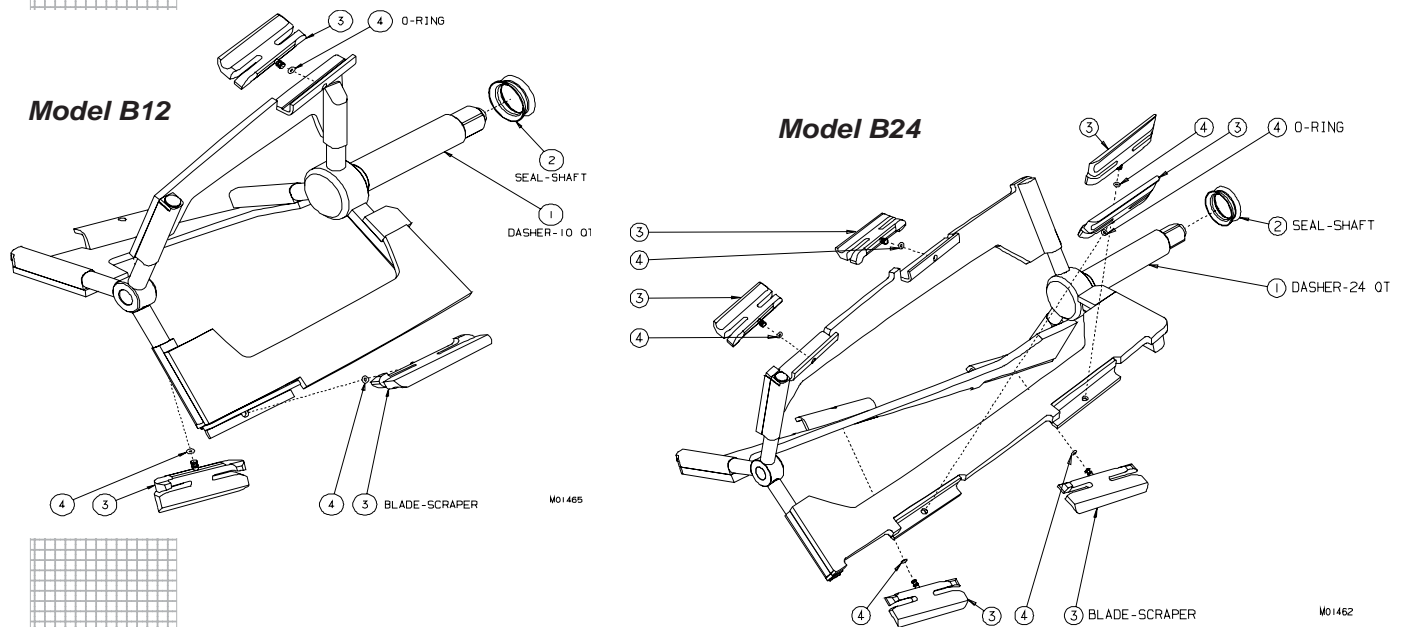

Figure 8-1 Dasher Assembly
2. See Figures 8-1 and 8-2. Install an o-ring (4) in the groove on each scraper blade pin (3) this will hold the blade in place. Place a small amount of lubricate on the o-ring. Assemble the scraper blades (3) on the dasher by placing the pin through the hole on the dasher (1). The scraper blade is designed to be installed only one way. Repeat until